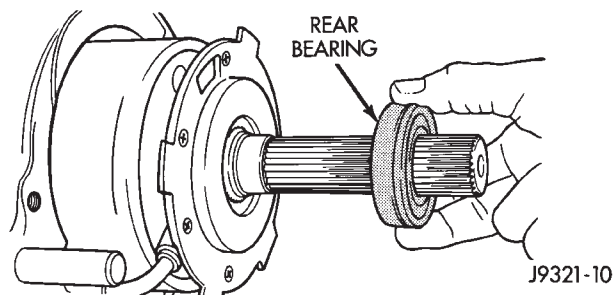

Fig. 10 Removing Rear Bearing
- (10) Remove rear bearing (Fig. 10). Note position of bearing locating ring groove for assembly reference.